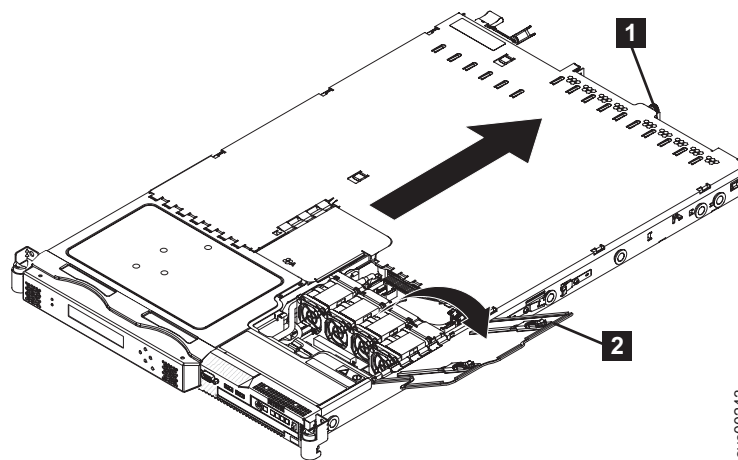

Figure 92. The SAN Volume Controller 2145-8G4 with fan door open
3. Loosen the thumbscrew (1 in Figure 92) that secures the cover at the rear of the SAN Volume Controller 2145-8G4.